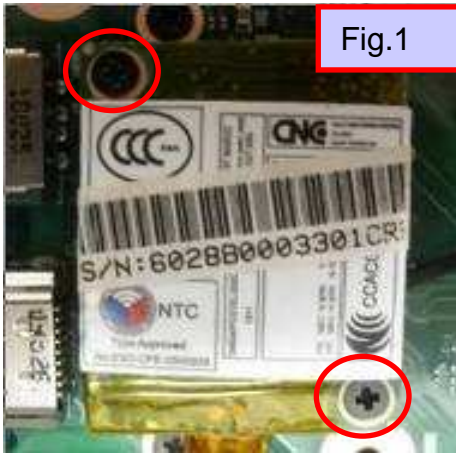

Fig.1
1. Tear 下 the tape of acetic acid (6054A0076201) *1 , Disassemble RJ11 Cable (Fig.1)